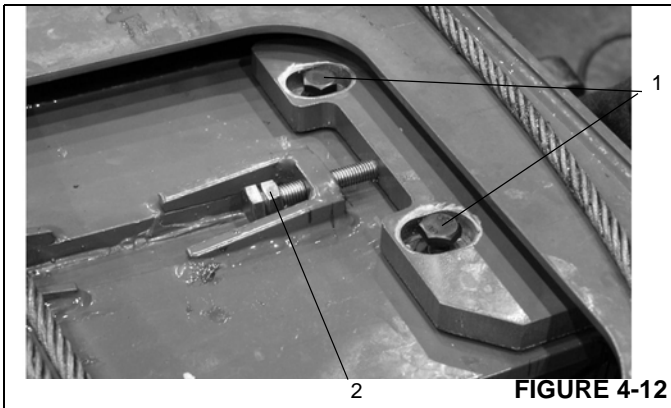

FIGURE 4-12
2. Remove the bolt (1), washer, and offset washer securing each top rear adjustable wear pad and remove the wear pads, keeper plates and bolts (2) from the top of the inner mid. Note location of wear pads and shims for installation. (Figure 4-12)